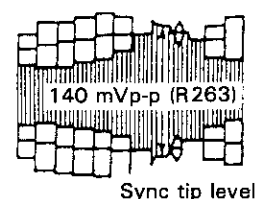

Figure 2-7.
6. Adjust R263 (record FM) so that the sync tip is 140 mVp-p. (Fig. 2-7)